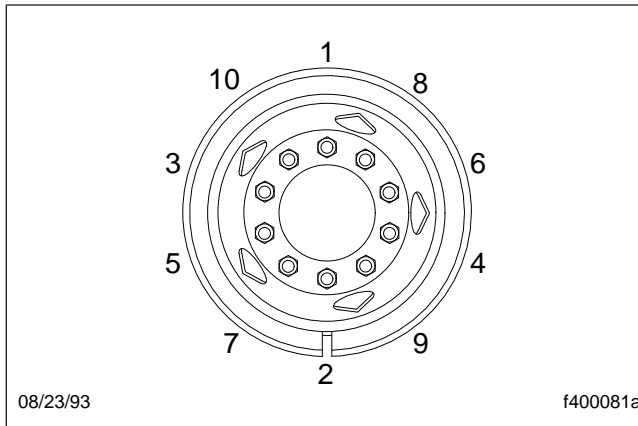
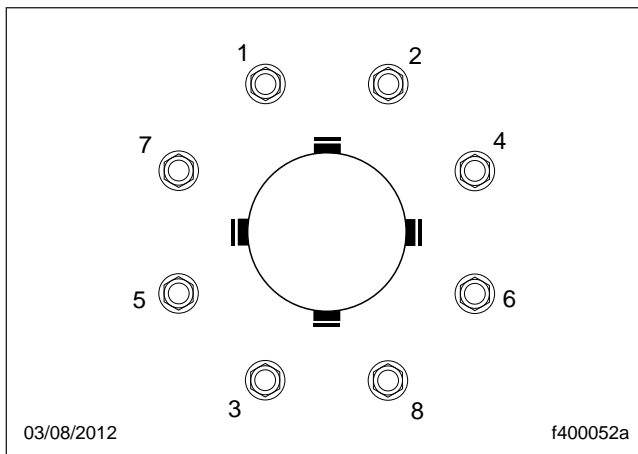

Fig. 21.4, Tightening Pattern, 10-Hole Wheels
Fig. 21.5, Tightening Pattern, 8-Hole Wheels
- 4.3 Make sure all wheel nuts are tightened. If tightening is necessary, use the tightening pattern in Fig. 21.4 or Fig. 21.5.